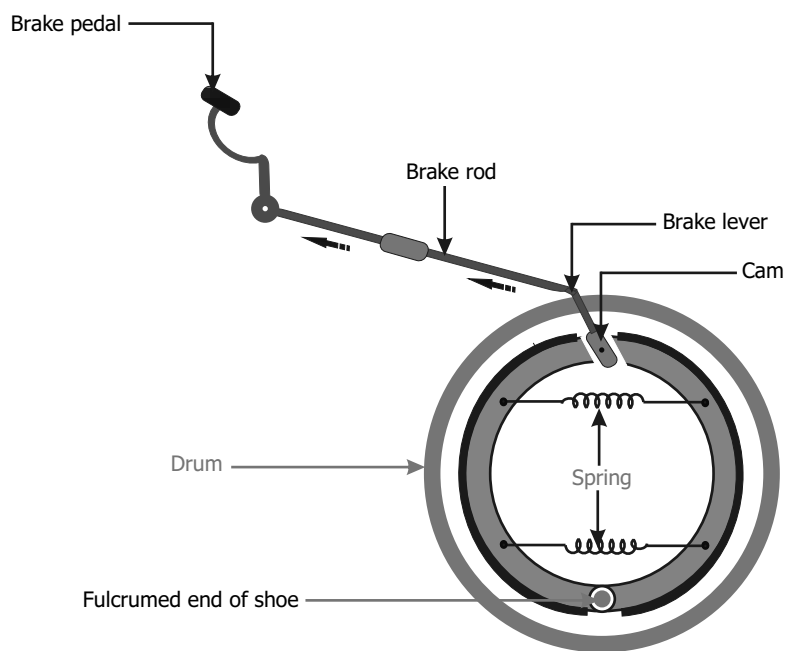

Figure 3.1 Internal expanding shoe brake
- The two brake shoes made of frictional material fit on the inside of drum which is mounted on the rear axle. The brake shoes are held away from drum by means of springs (fig.3.1).